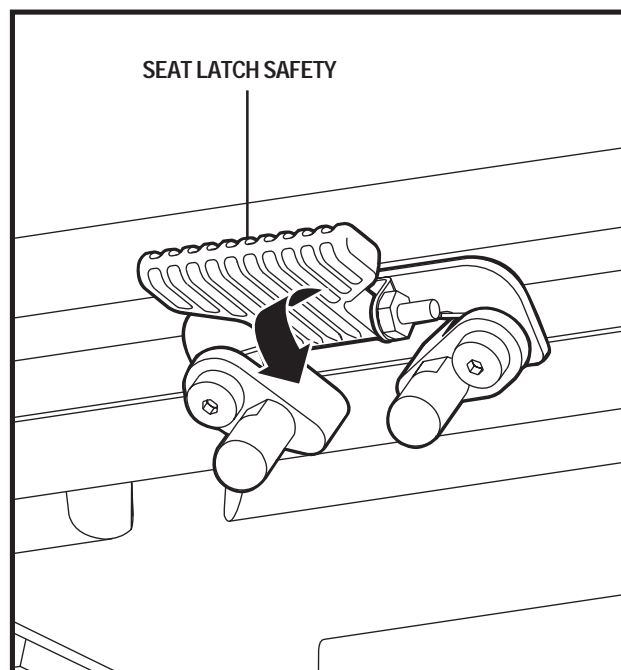

Figure 16. Seat Latch Safety
4. Flip the seat latch safety down. See figure 16.